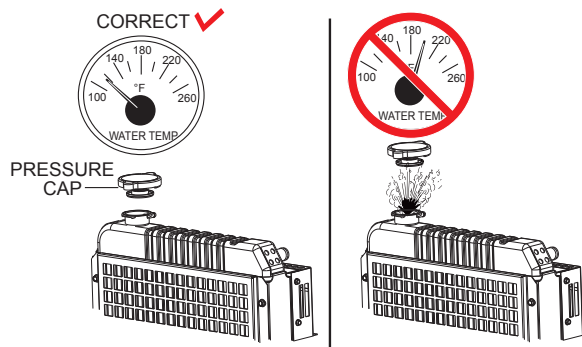

Figure 52. Radiator Pressure Cap Removal
1. Remove the **radiator pressure cap** (Figure 52) only when the coolant temperature is below 120°F (50°C).